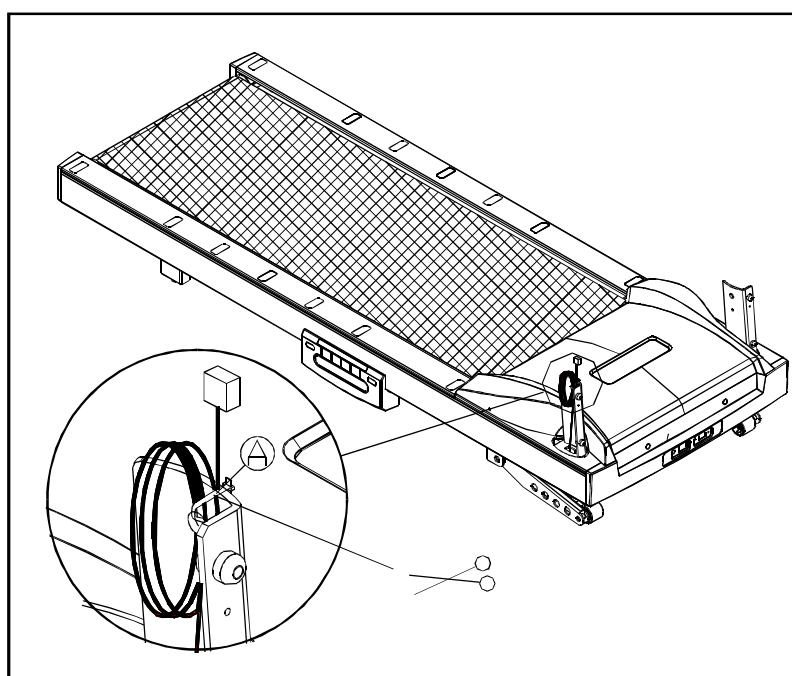

Fig.2
2. Cut the tie strap for the ribbon cable. (see Fig.2)